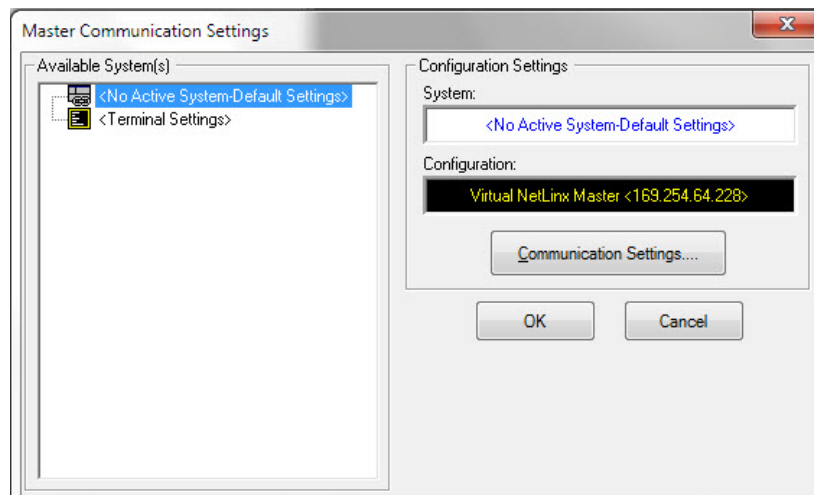

FIG. 33 Master Communications Settings dialog
2. In NetLinx Studio, select **Settings > Master Communication Settings** from the *Main* menu to open the *Master Communication Settings* dialog (FIG. 33).